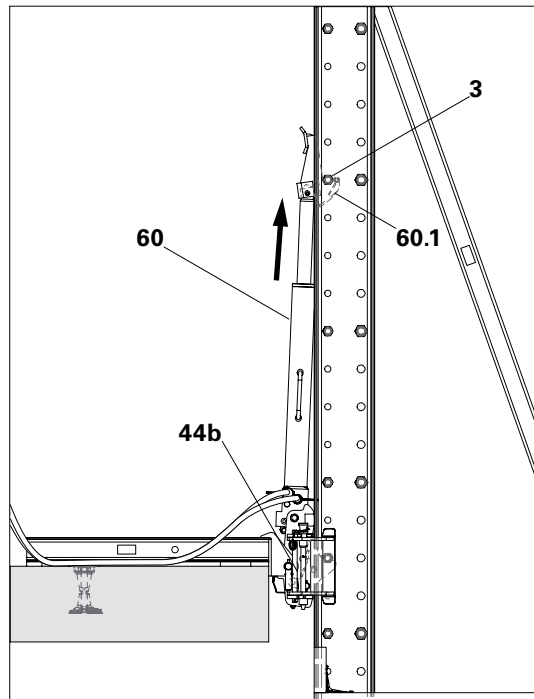

Fig. D4.03
2. Extend the hydraulic cylinder (60) up to the first Spacer (3).
3. Load is now carried by the piston with claw (60.1). (Fig. D4.03)